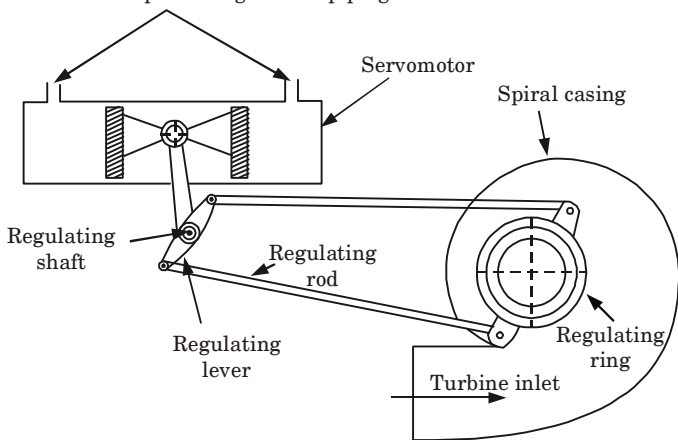

Fig. 4.24.1. Governing of Francis turbine.
2. The guide blades of a reaction turbine as shown in Fig. 4.24.1 are pivoted and connected by levers and links to the regulating ring.